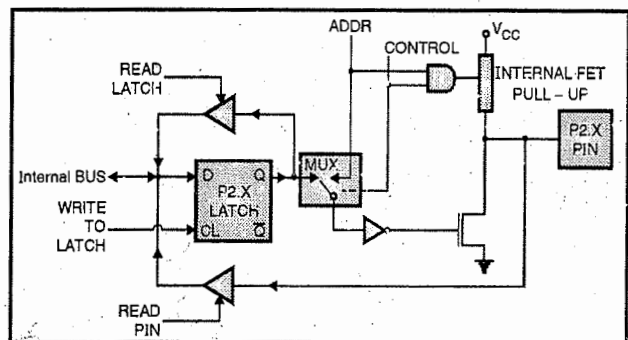

Fig. 1.17.5 : Port 2 circuit
**Function and use :** Port 2 of the microcontroller 8051 is a multifunctional port. It can be used as a simple input / output port or for generating the upper order address bus for external memory ( $A_8 - A_{15}$ ). Fig. 1.17.5 shows port 2 circuit. Its address is A0H. It is a bit addressable port.